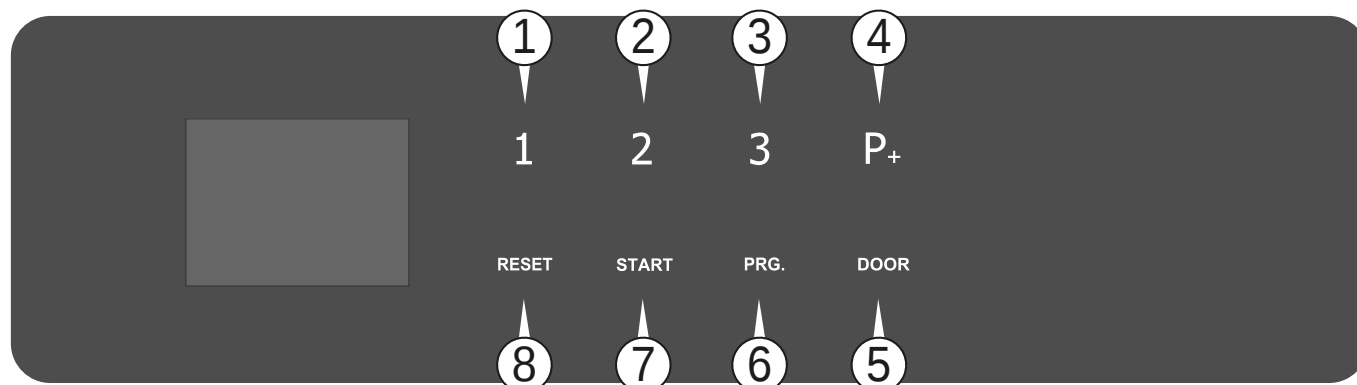

Fig. 16
To select the programs available, use key P1, P2 or P3 (see Fig. 16) depending on the most suitable program for the level of dirt of the load.
- Open the door (key 5 Fig. 16) to introduce the rack/trolley.
- Close the door and push it until the lock is activated. The door can be unlocked and opened at any time before the program starts, by pressing the DOOR key (5 Fig. 16).
To select the programs available, use key P1, P2, P3 or the key P+ (to select programs from 4 to 40) on the control panel (Fig. 16).
To start a program, press the START key (7 Fig. 16).
The message «Finish» with a green background on the display indicates that the program has been carried out correctly. Unlock the door by pressing the DOOR key (5 Fig. 16) and open it.
Description of the control panel (Fig. 16):
- 2) With the machine started and door closed, the screen for selecting the programs will appear. Press the selected key (P1 or P2 or P3 Fig. 16) on the control panel. To access subsequent programs (if stored), press the key «P+» several times.
- 4) Optional: enter the user password: use the key P1, P2, P3, RESET, START and PRG on the control panel to digit the correct password (See Fig. 16 for key description).